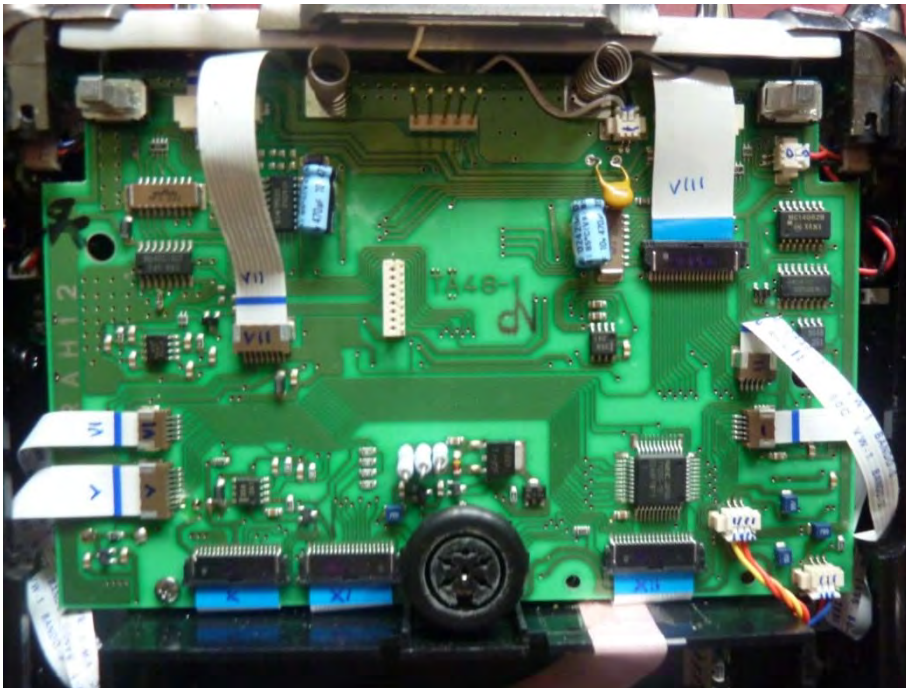

Figure 61 Label all ribbons and cables on the PCB
5. As depicted in Figure 61, label all ribbon cables on the main PCB that is now exposed. You should know where and how to refit each and every one so take a photo with a camera.